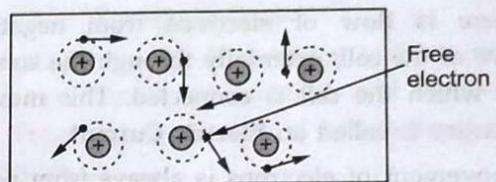

Fig. 0.2.1 Inside the piece of a conductor
- A conductor is one which has abundant free electrons. The free electrons in such a conductor are always moving in random directions as shown in the Fig. 0.2.1.